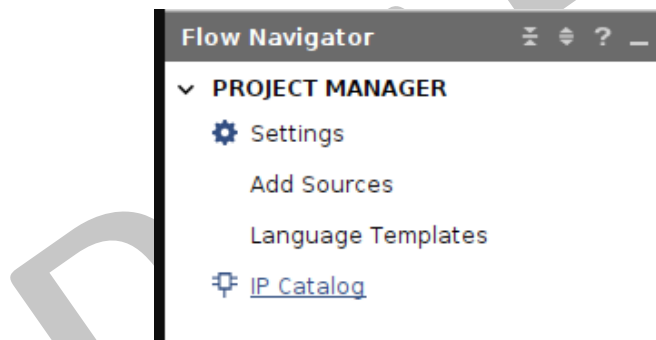

Figure 2.4: IP Catalog under Project Manager.
1. **IP Catalog** is opened within the Flow Navigator (Figure 2.4).